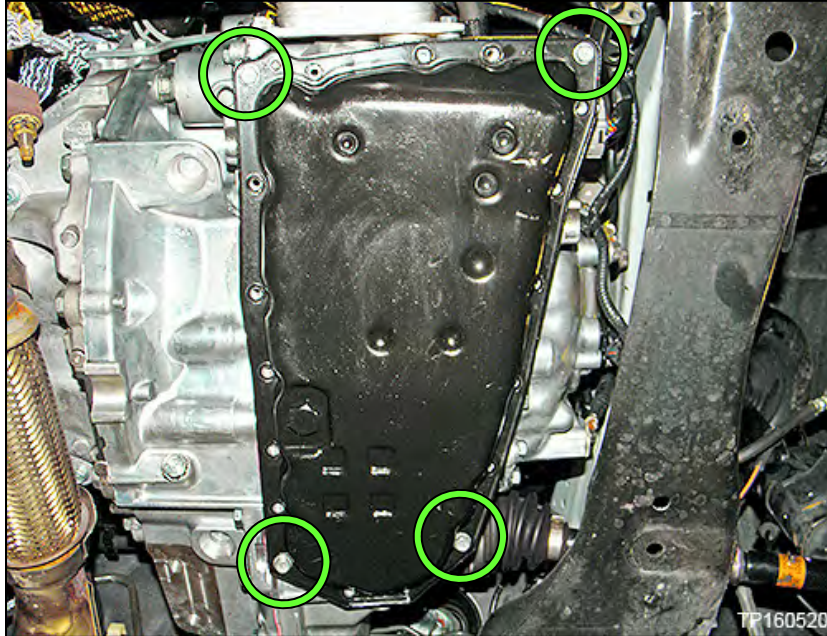

Figure 25
9. Temporarily install the oil pan gasket and oil pan with four oil pan bolts at the corners of the oil pan, hand tight (Figure 25).